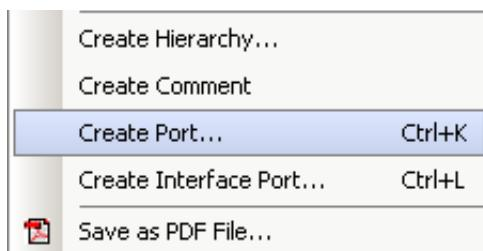

Figure 54: Create Interface Port Option
- **Create Interface Port** (for an interface such as DDR3), then click **OK** (Figure 54).